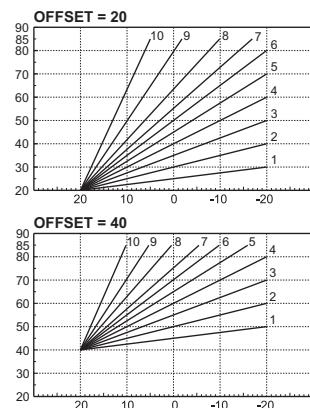

fig. 25- Example of compensation parallel curve offset
**Offset:** Access this sub-menu to access parallel offset of the curves using the buttons **+** and **- DHW**. Refer to fig. 25 for the characteristics.